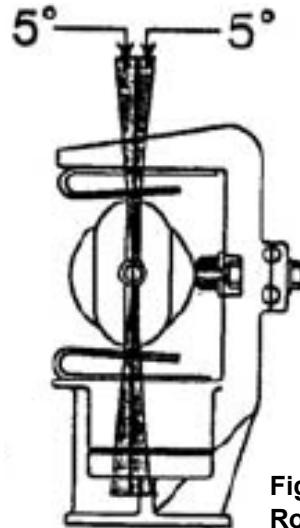

Figure 11: Blade
- C. The silver of the blade tips should be centered on the silver of the jaw contacts (figure 11). Minor misalignments can be corrected by tilting the jaws toward or away from the center stack, using the jaw jack screws.